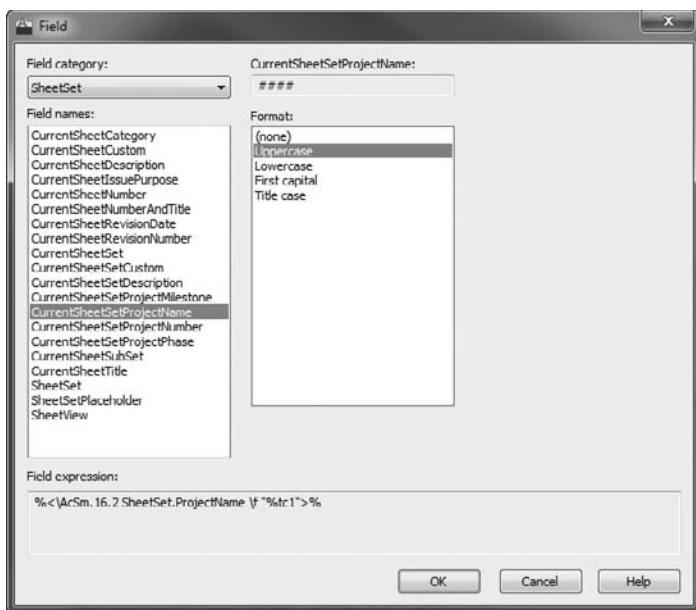

FIGURE 14.10 Selecting the Sheet Set Manager project name from the Field dialog box
6. Choose CurrentSheetSetProjectName from the list of available Field Names, and then pick Uppercase from the Format list on the right. The Field dialog box should look like Figure 14.10. Click OK to exit the Field dialog box.